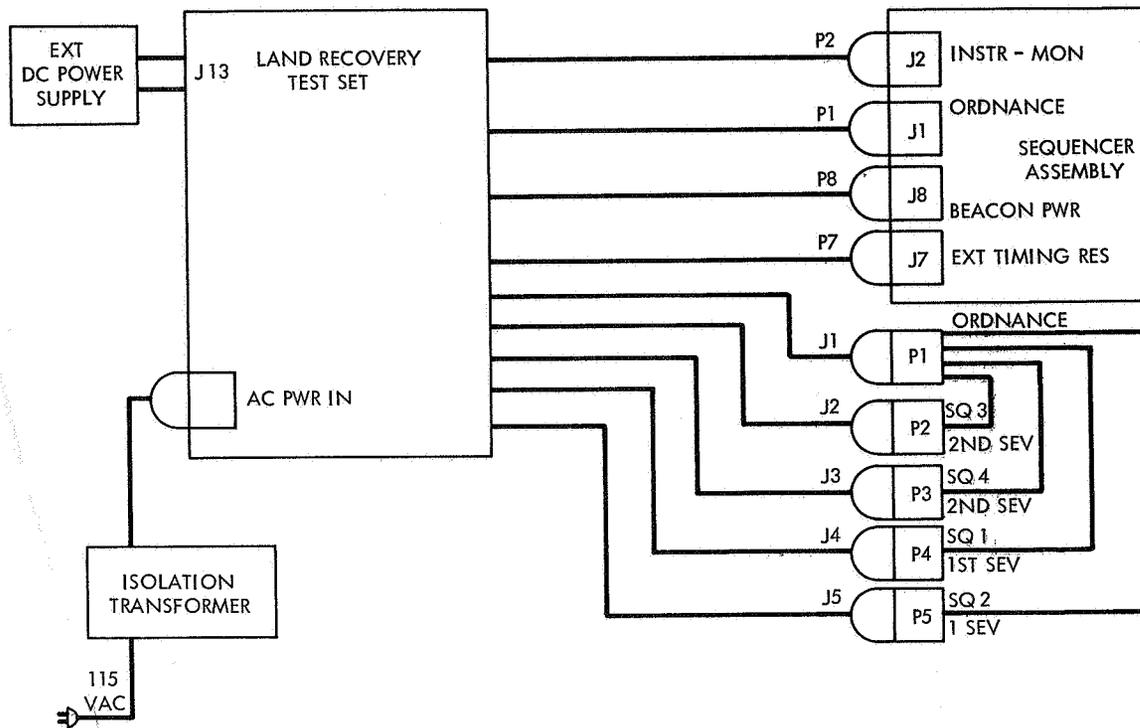

Figure 2-1. Initial Test Setup
- (1) Measure no-load voltage and record on data sheet A2.
- (2) Apply load, measure voltage at T + 0 minutes, and record on data sheet A2.
- (3) Measure voltage at T + 1 minute and record on data sheet A2.
- (4) Measure voltage at T + 3 minutes and record on data sheet A2.
- (5) Measure voltage at T + 5 minutes and record on data sheet A2.
- (6) Measure voltage every 5 minutes (until T + 50 minutes) and record on data sheet A2.
- (7) Replace each battery that has discharged to below 1 volt per cell and repeat steps a through c for each new battery.
- e. Connect sequencer assembly to land-recovery-system test set (GSFC drawing number GDZ-12-207C) as shown in Figure 2-1.
- a. Connect sequencer assembly to land-recovery-system test set (GSFC drawing number GDZ-12-207C) as shown in Figure 2-1.
- c. Connect sequencer assembly to land-recovery test set as shown in Figure 2-1.